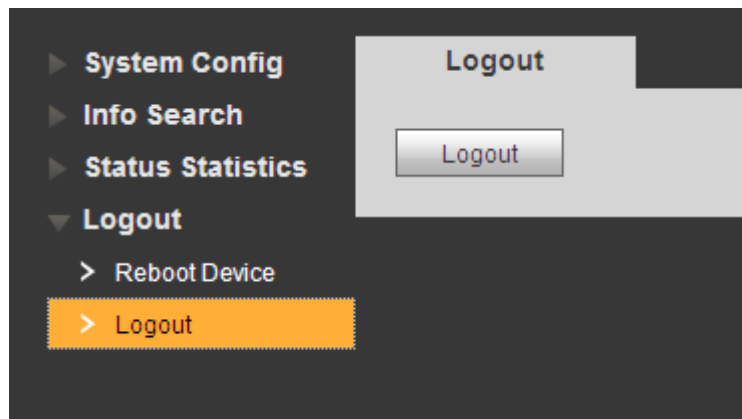

Figure 5-2
Step 1. Select Logout>Logout>Logout. See Figure 5-2.